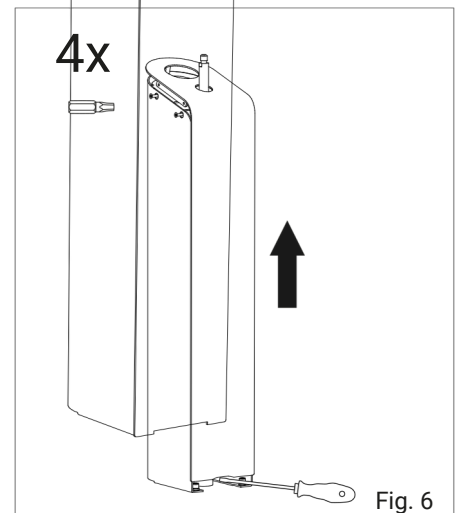

Fig. 6
- 2 Then loosen the four M4 Torx safety screws (7) on the anthracite-colored housing half (10) using the appropriate safety bit (3) (Fig. 6).